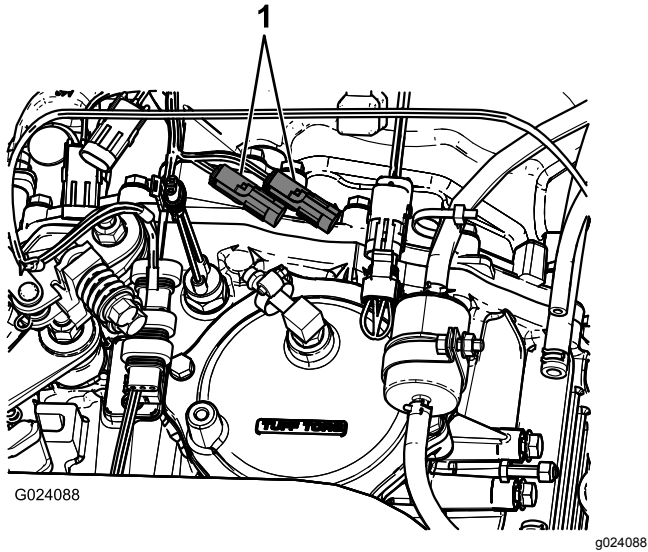

Figure 12
- Connect the existing speed sensor to the speed-sensor plug and the speed-sensor-output plug on the new wiring harness (Figure 12).